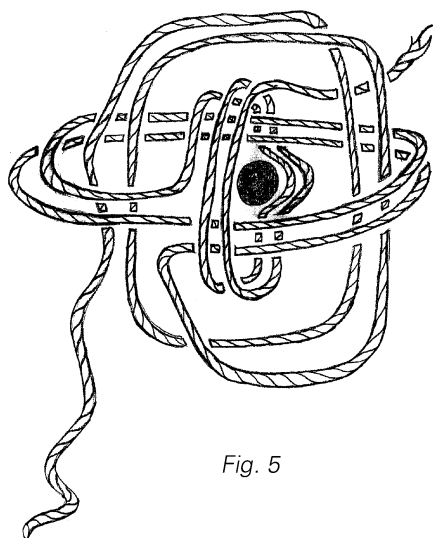

Fig. 5
In the book *Apointamentos Do 1 E 2 Grau Do Curso de Marinharia de Manobra* (1952, 1960 1968) of the school at the ship Navio Escola Sagres from the Portuguese Admiralty Navy, we find the final or classic description of the monkey's fist. Nevertheless, I call it 'Pinha de Retenida do Navid Escola Sagres' (Fig 5) just for the sake of historical documentation.
- Now gently tug one wend and the diagonally opposite standing part - which are, in fact, bits of the same strand. Repeat with each strand in turn until the knot is firm and tight (fig. 5).